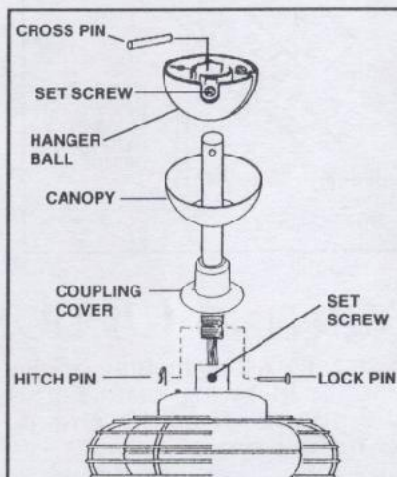

FIG. 8
**Step 4.** Carefully feed the fan wires through the downrod. Thread the rod into the coupling and tighten until the holes are aligned. Next, replace the lock pin and secure with the hitch pin. Tighten the set screws. (Fig. 8)
**Step 5.** Slip the coupling cover and canopy onto downrod. Allow canopy to rest on top of the coupling cover. Reinstall the hanger ball onto rod, making sure that the cross pin rests properly inside the ball and the set screw is securely tighten. (Fig. 8)